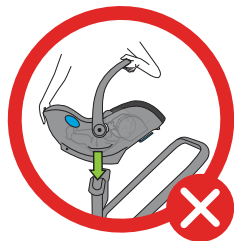

Figure 84
- With the child properly secured in the Carrier position the Carrier so that the Stroller Attachment Points on the Carrier are positioned directly above the stroller car seat adapters, and lower Carrier onto the adapters, as shown in **Figure 84**.